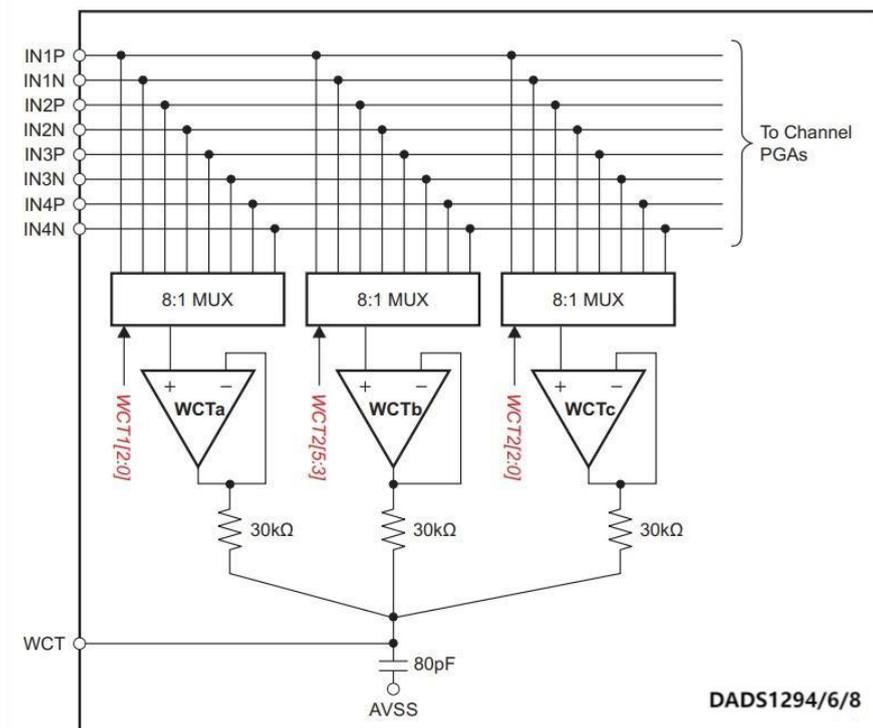

Figure 35. WCT voltage
In a standard 12-lead ECG, the WCT voltage is defined as the average of the right arm (RA), left arm (LA), and left leg (LL) electrodes. This voltage is used as a reference voltage for chest lead measurements. The DADS129x features three integrated low-noise amplifiers that generate the WCT voltage. Figure 35 shows a block diagram of the implementation.